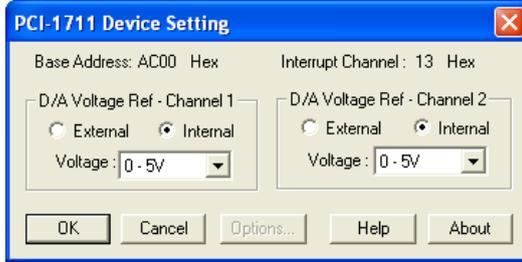

Figure 2.4: The Device Setting Dialog Box
3. Please click the Setup button to configure your device. On the *Device Setting* dialog box (Fig. 2-4), you can specify the D/A voltage reference either as *External* or *Internal* and specify the voltage output range for the two D/A channels.